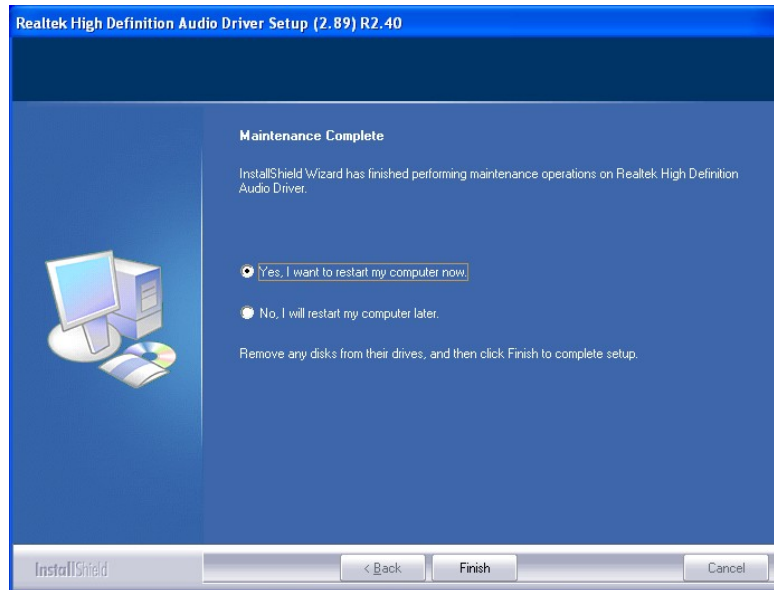

Figure 7-16: AC'97 Driver Installation Complete
Step 7: When the installation is complete, the screen in **Figure 7-16** appears.